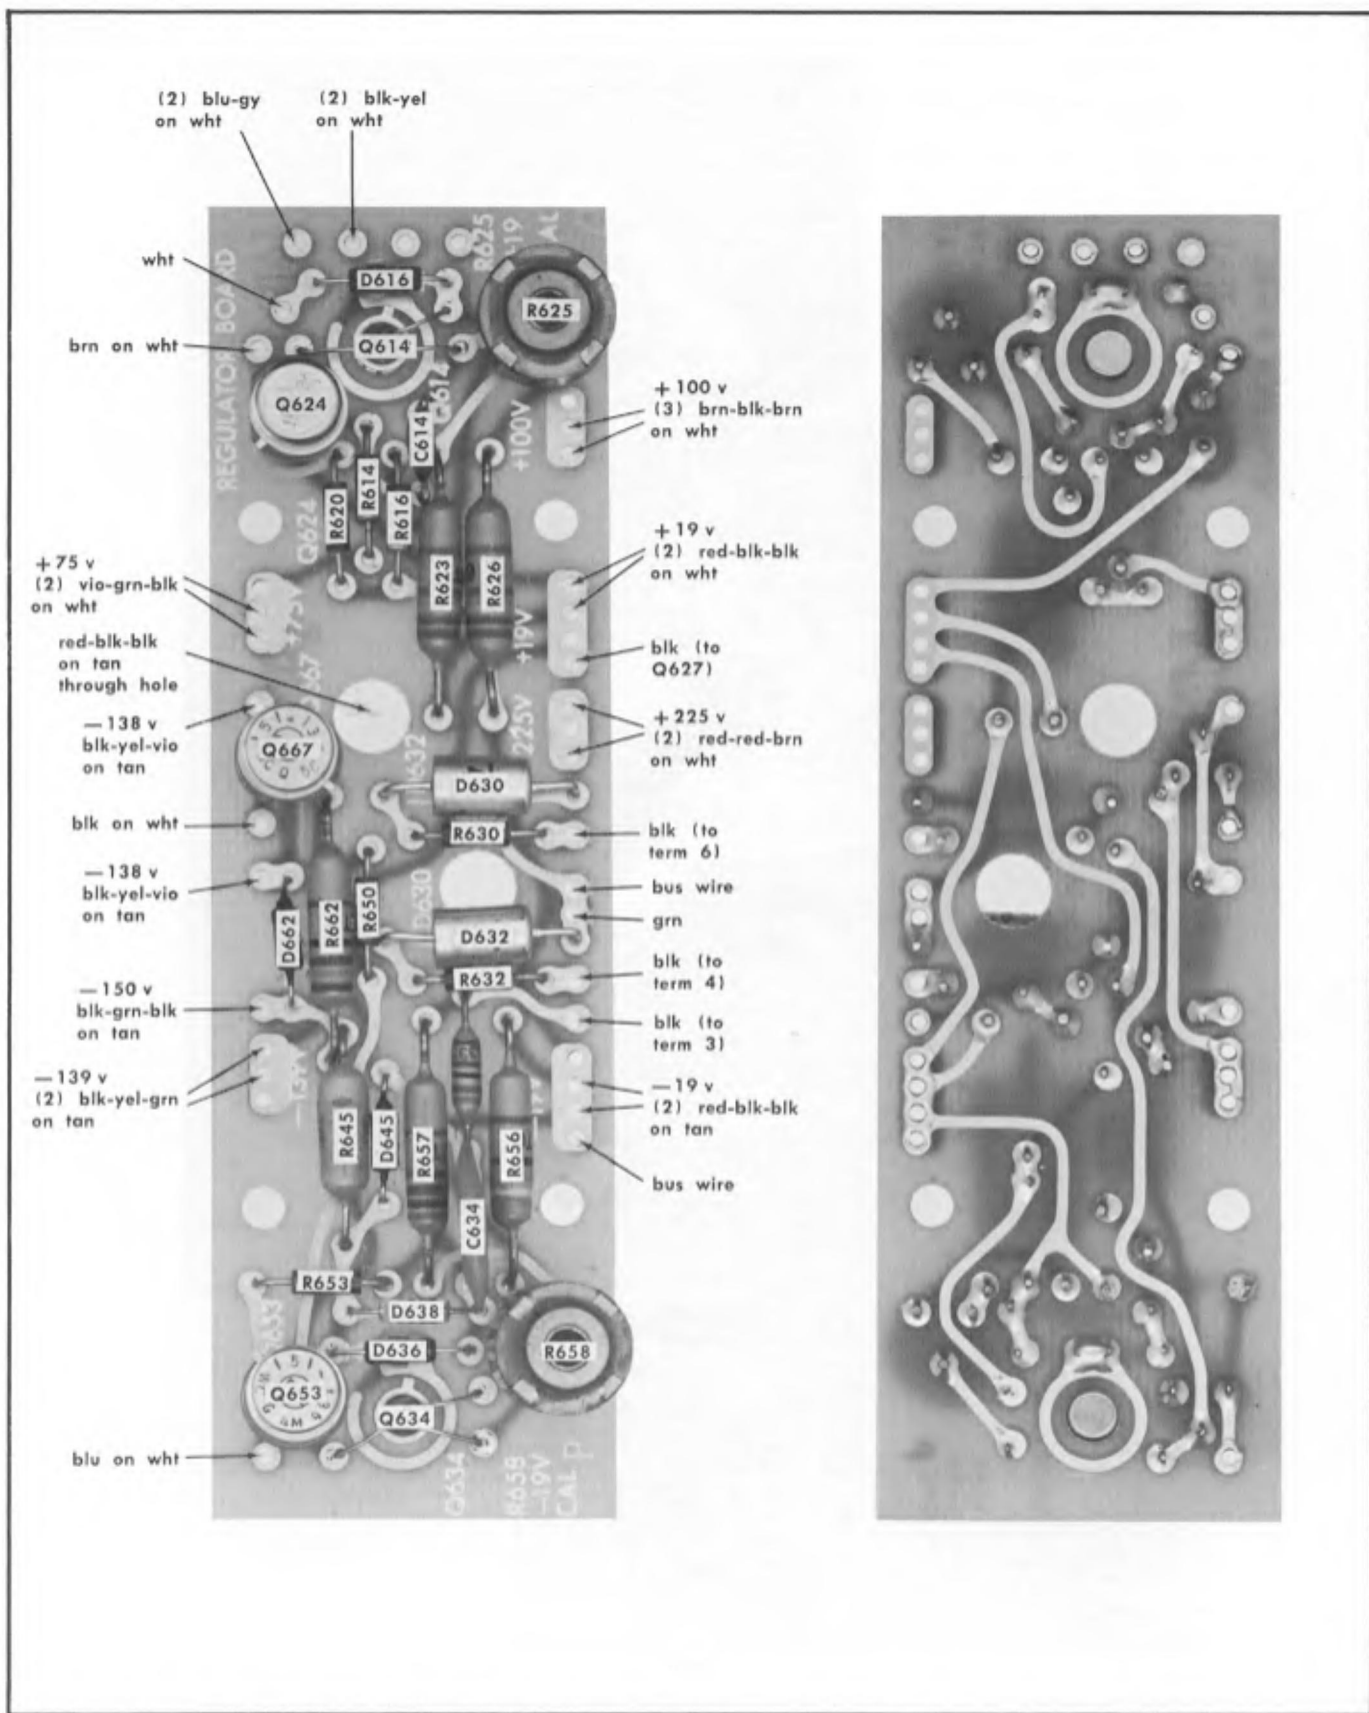

Fig. 4-3. Circuit component locations and wiring color-code on etched-wiring REGULATOR BOARD: (A) front side; (B) reverse side.
2. Resolder all wires to the board according to the soldering technique described previously. Wire locations and color-coding of all wires are shown in Figs. 4-3, 4-4 and 4-5.
**Etched-Wiring Boards.** Due to the high-density spacing of components on the etched-wiring boards, only a few component circuit numbers are printed on the boards. However, all components and connections on the boards are shown in Figs. 4-3 through 4-5. Test points can be located where they connect to one or more of the components.